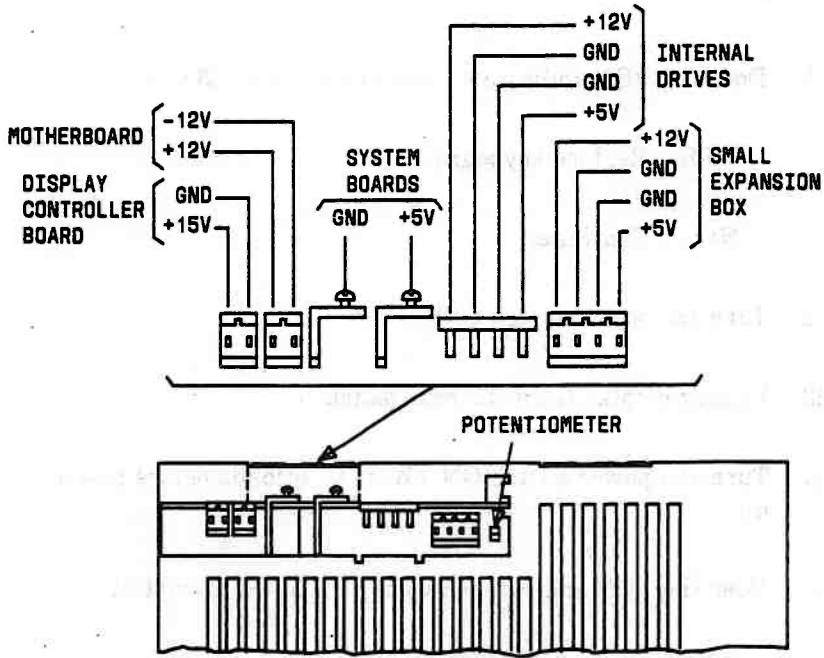

Figure 5-3. Power Supply Connectors
27. Unplug +15 V dc Display Controller power cable from the power supply (Figure 5-3).